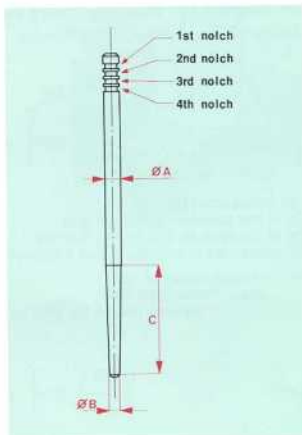

fig. 26
**the diameter B of the tip (figure 26)**